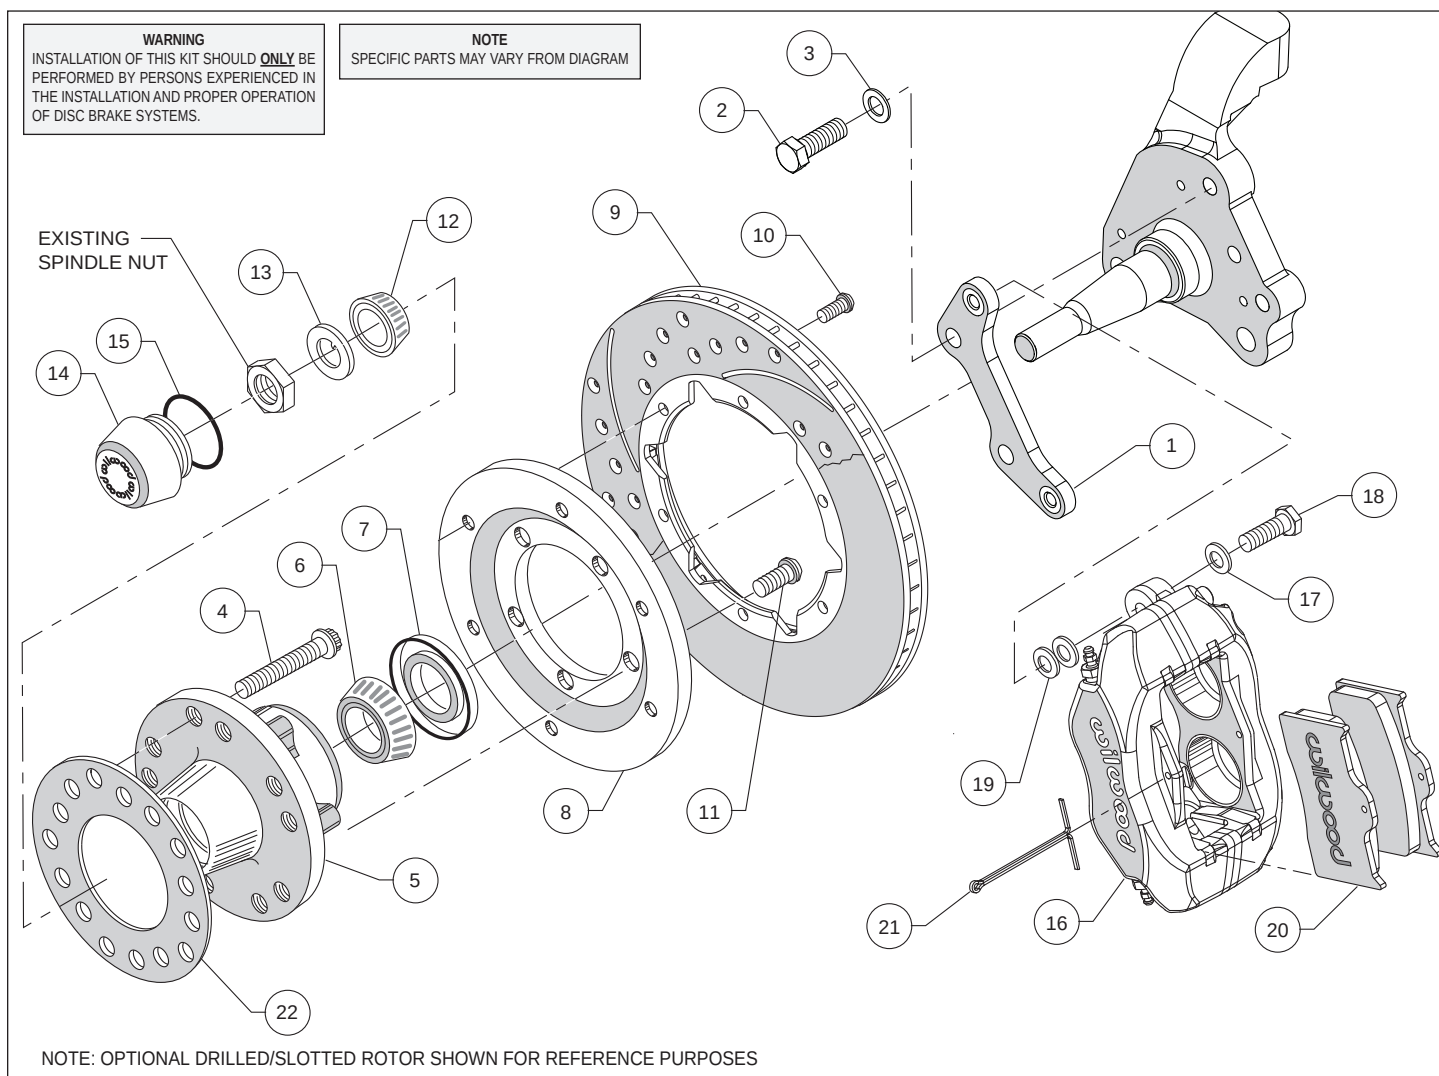
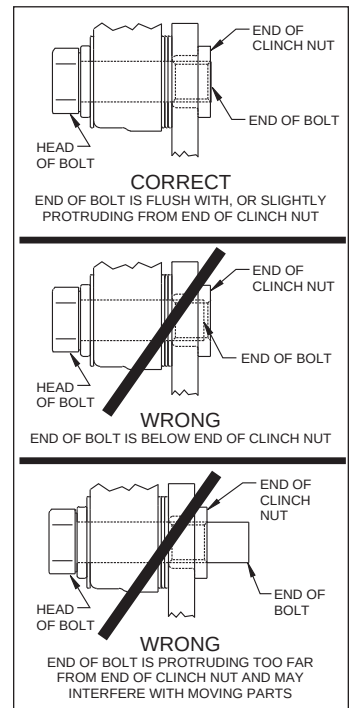

Figure 1. Typical Installation Configuration
Figure 3. Clinch Nut Engagement Diagram
**Assembly Instructions** (numbers in parenthesis refer to the parts list, on the preceding page and Figure 1): **CAUTION:** All mounting bolts must fully engage clinch nuts. Be sure to check that all bolts are either flush or protruding through flanged side of clinch nut after shimming, Figure 3.
- Align caliper mounting bracket (1) with the corresponding holes, to the face of the spindle. Attach using bolts (2), and washers (3), as shown in Figure 1 and Photo 1. Temporarily tighten the mounting bolts. Ensure that the flanged heads of the clinch nuts in the bracket are facing outboard, Photo 1. **NOTE:** The bracket must fit squarely against the mounting points on the spindle. Inspect for interference from casting irregularities, machining ridges, burrs, etc. Remove bolts one at a time, apply red *Loctite*® 271 to threads and torque to 77 ft-lbs.
- Install the grease seal (7) by pressing into the backside of the hub (5), flush with the end of the hub, Photo 3.
- Orient the rotor (9) and the rotor adapter (8) as shown in Figure 1 and Photo 4. Attach the rotor to the adapter using bolts (10). Using an alternating sequence, apply red *Loctite*® 271 to the threads, and torque to 25 ft-lb.
- Mount the adapter/rotor assembly (8/9) to the hub (5) using bolts (11), as shown in Figure 1 and Photo 5. Using an alternating sequence, apply red *Loctite*® 271 to the threads, and torque to 55 ft-lb.
- Screw dust cap (14) into hub (5), Photo 7. Friction created by the o-ring (15) on the dust cap keeps it from unscrewing. **NOTE:** The O.D. of the existing OEM spindle washer may be larger than the I.D. of the dust cap not allowing it to seat against the hub face. Therefore, use the spindle washer (13) supplied with the kit instead of the OEM washer.
- NOTE:** Please reference the caution statement at the beginning of the assembly instructions. Mount the caliper (16) onto the caliper mounting bracket (1) using bolts (18) and washers (17), as shown in Figure 1. Initially place two .035" thick shims (19) on each bolt between the caliper and the bracket, Photo 8. Temporarily tighten the mounting bolts and view the rotor (9) through the top opening of the caliper. The rotor should be centered in the caliper, Photo 9. If not, adjust by adding or subtracting shims between the bracket and the caliper. Always use the same amount of shims on each of the two mounting bolts. **NOTE:** The end of each bolt must be flush with or slightly protruding from the head of the clinch nut, as shown in Figure 3. If necessary place spare shims between washer (17) and caliper mounting ear to achieve the proper clinch nut engagement. Once the caliper alignment and clinch nut engagement are correct, remove the bolts one at a time, apply red *Loctite*® 271 to bolt threads, and torque to 40 ft-lb.